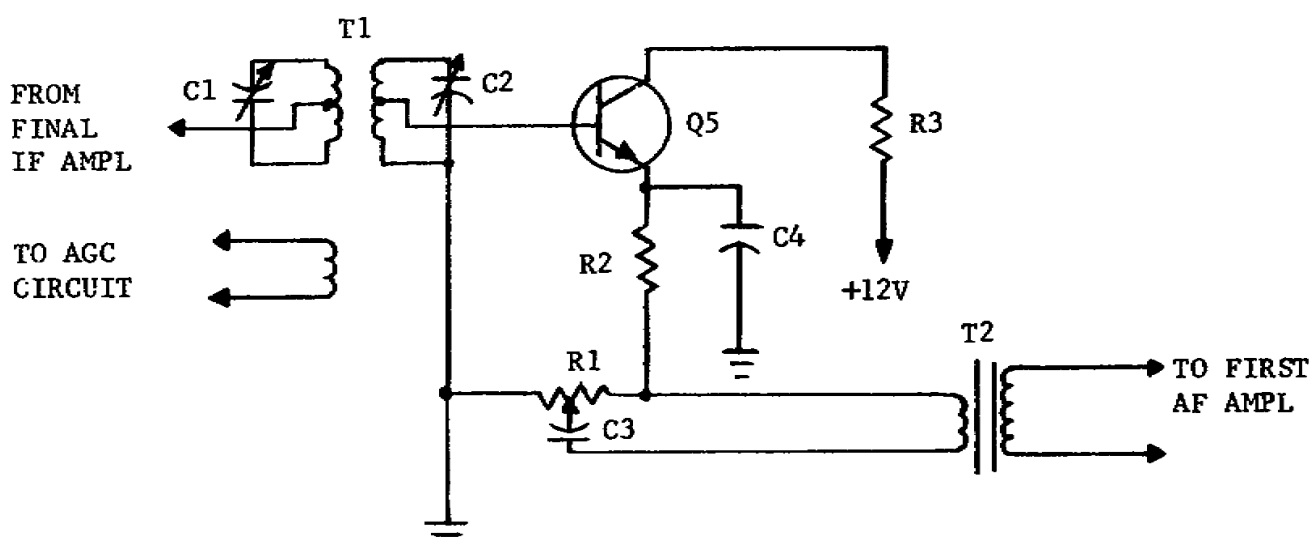

Figure 3-2. Detector.
(fig. 3-2)
18. The function of resistor R1 in figure 3-2 of the attached memorandum is to